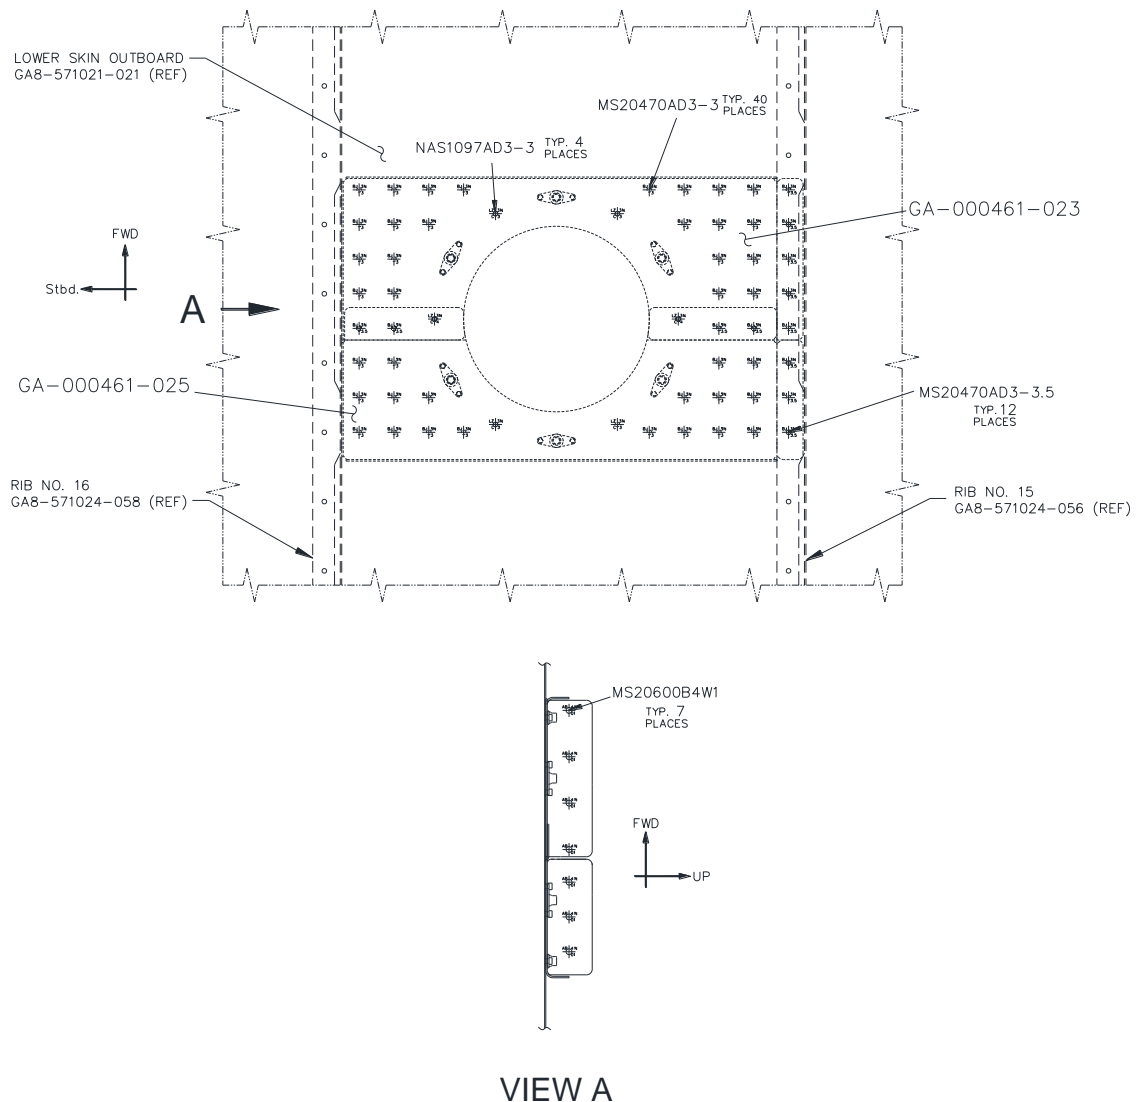

Figure 3: Installation of access hole stiffeners
- 1.3. Install the two modified stiffeners (GA-000461-023 & GA-000461-025) in accordance with Figure 3 below.